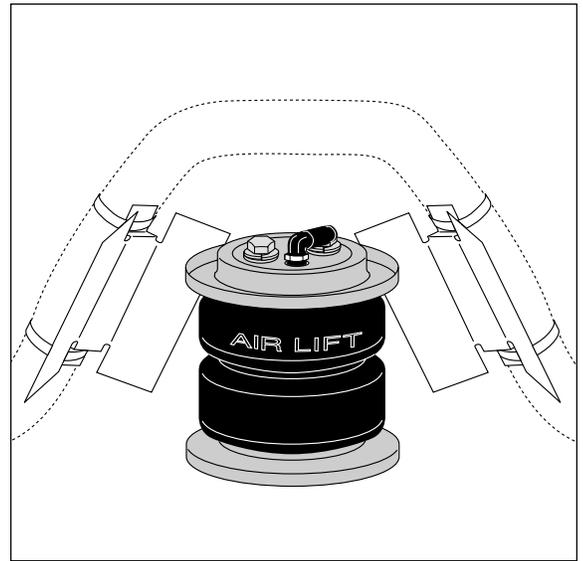

Figure 5
9. **IMPORTANT:** Installation of this kit requires two exhaust heat shields (Figure 5). The shields (P) are attached with the stainless steel clamps (Q) to the exhaust pipe, with the flanges being bent inward. Shields may be trimmed or bent to attain component clearance. Bend tabs to provide  $\frac{1}{2}$ " dead air space between exhaust pipes and heat shield and maximum clearance with bellows.